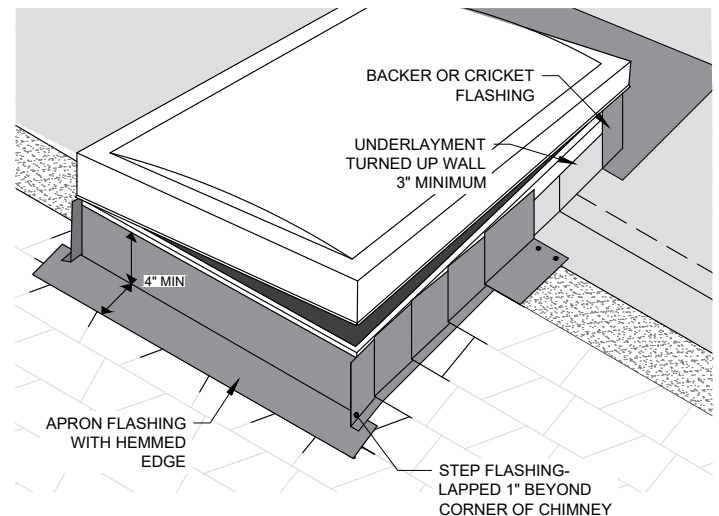

Figure 4 - Installation of Self-Adhering Underlayment and Metal Flashings at Roof Openings
*New/like new sheet metal flashing and accessories are required to match projected life cycle of roof. (See Figure 4)